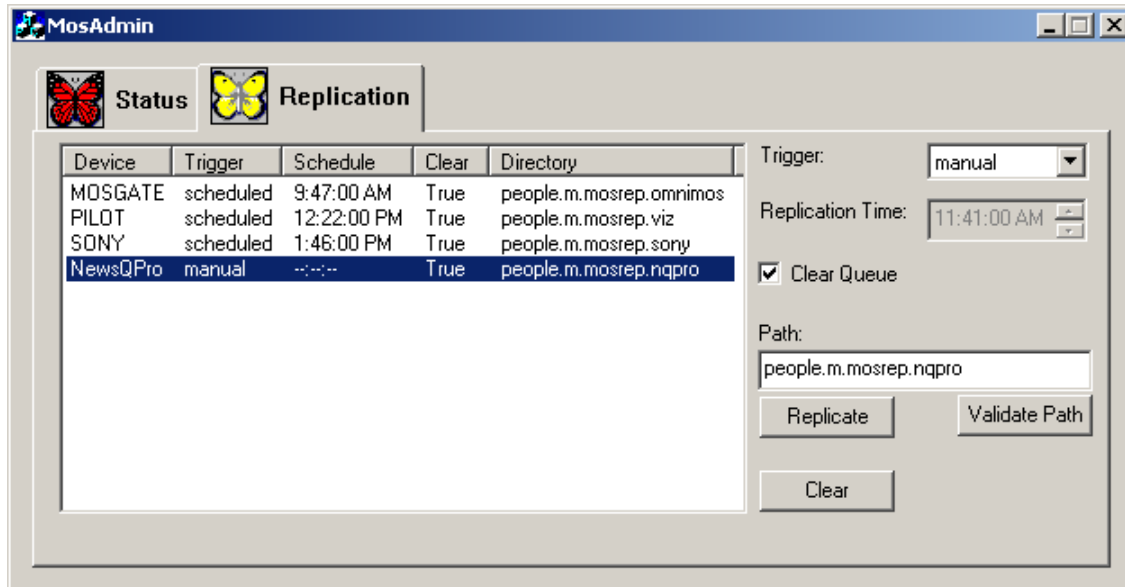

Figure 6 MosAdmin Replication Tab
- Replication — See Figure 6 on page 93.